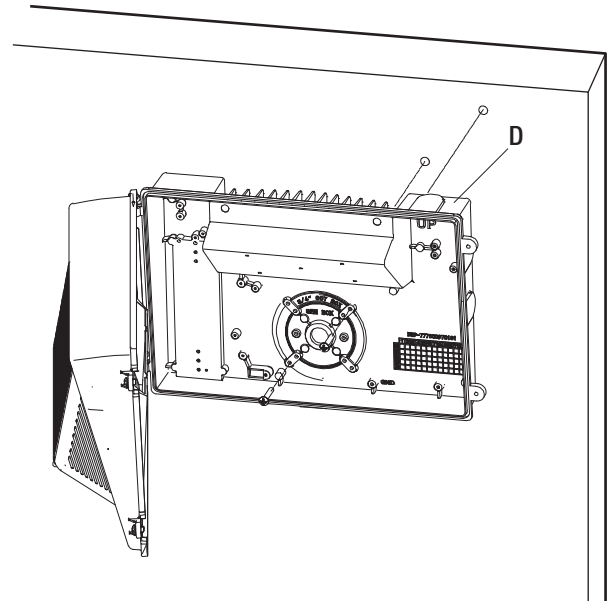

Fig. 2
- Mark and drill two to four holes on the wall surface as per the desired location for installing the mounting base (D).
- Use two or more suitable screws (not included) applicable to the surface of mounting and attach the mounting base (D) on the surface. (Fig. 2)